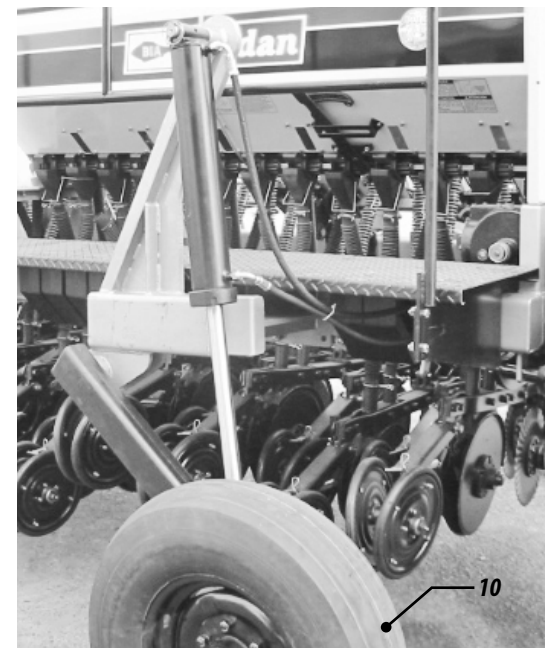

Figure 58
- 06 - Operate the wheelsets (10) of the transport in order to raise it (key #1 of the panel), figure 58.